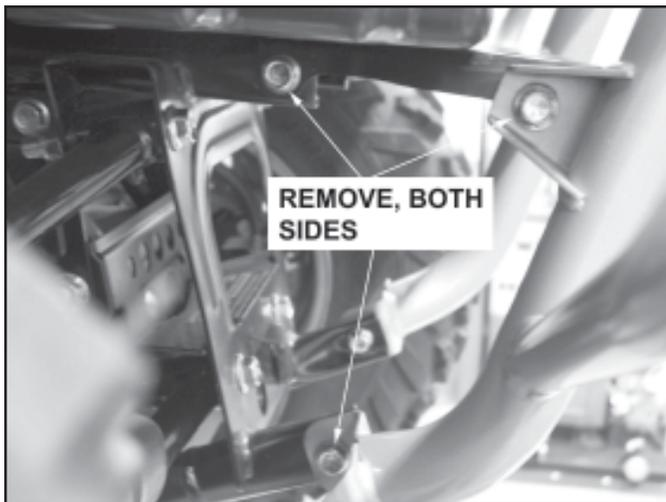

Figure 2
2. As seen in **Figure 2**, remove the two upper and one lower frame bolts on each side of the bumper.